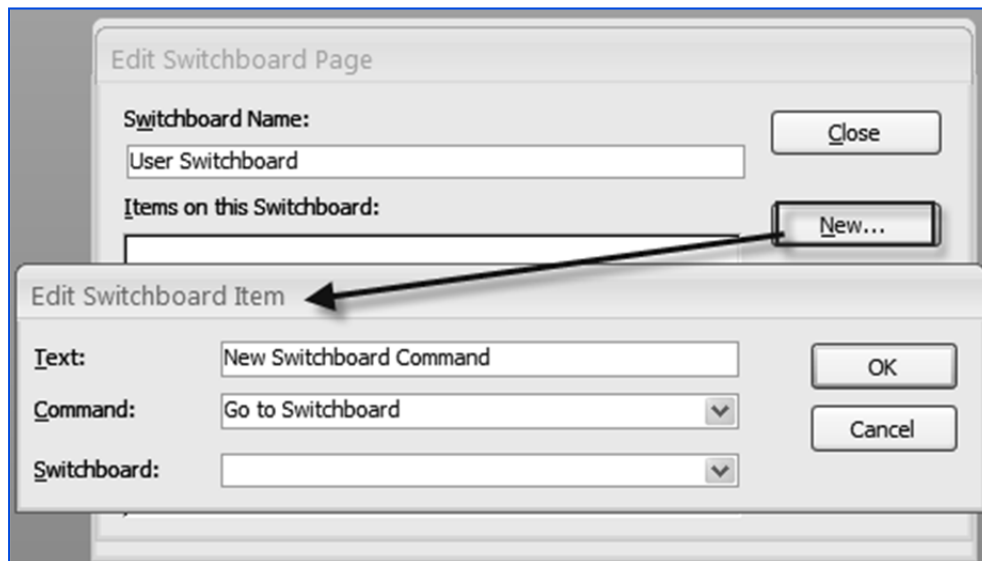

Fig. 4.3.8: Create a New Button
4. In the *Edit Switchboard Page* dialog box, click *New* to add buttons to *Switchboard*. The *Edit Switchboard Item* dialog box appears, as shown in Fig. 4.3.8.